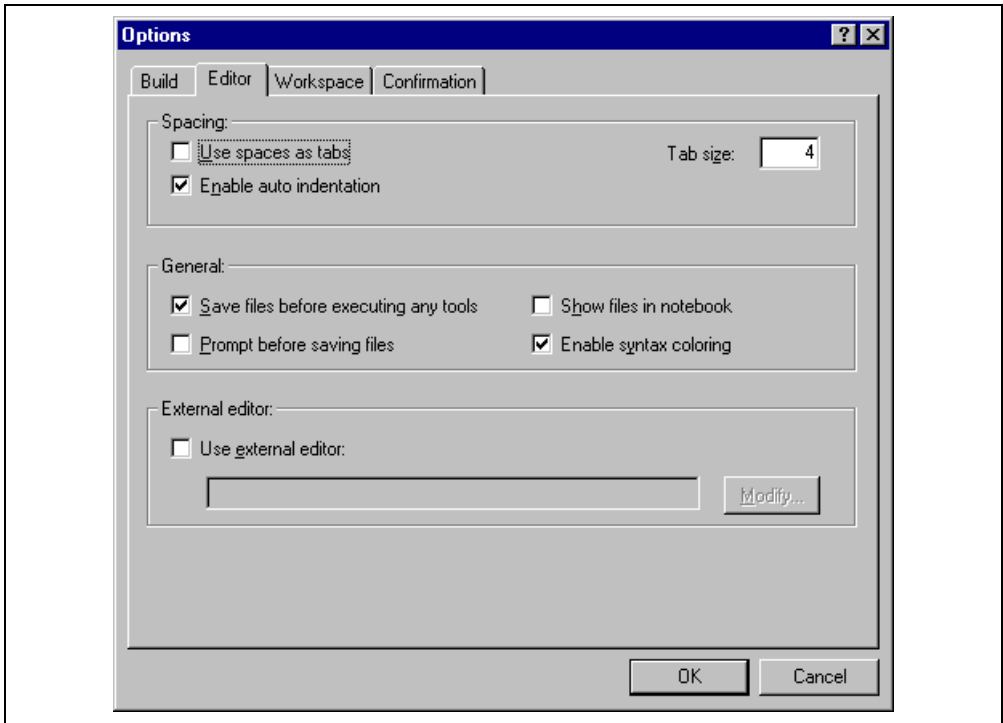

Figure 4.7: Options Dialog Editor Tab
1. Select [**T**ools->**O**ptions...]. The “Options” dialog will be displayed. Select the “Editor” tab * MERGEFORMAT (figure 4.7).
1. Select [**Tools->Options...**]. The "Options" dialog will be displayed. Select the "Editor" tab * MERGEFORMAT (figure 4.7).
1. Select [Tools->Options...]. The “Options” dialog will be displayed. Select the “Editor” tab * MERGEFORMAT (figure 4.7).